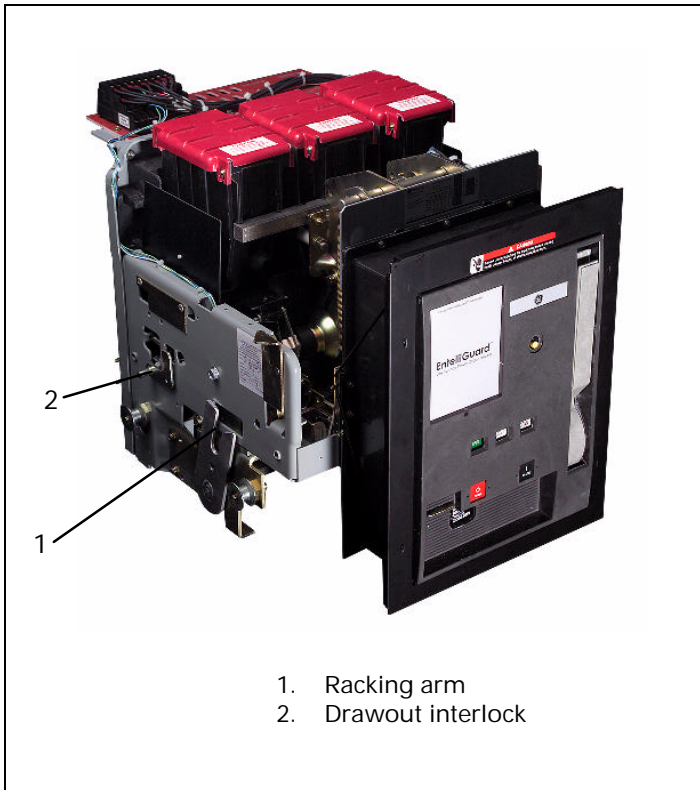

Fig. 3-8. EGX-08 circuit breaker
A breaker should always be OPEN when it is moved into or out of the CONNECTED position. As a safeguard, the drawout interlock (2), Fig. 3-8, will cause the breaker to open before the primary disconnects lose contact if a closed breaker is moved out of the CONNECTED position.